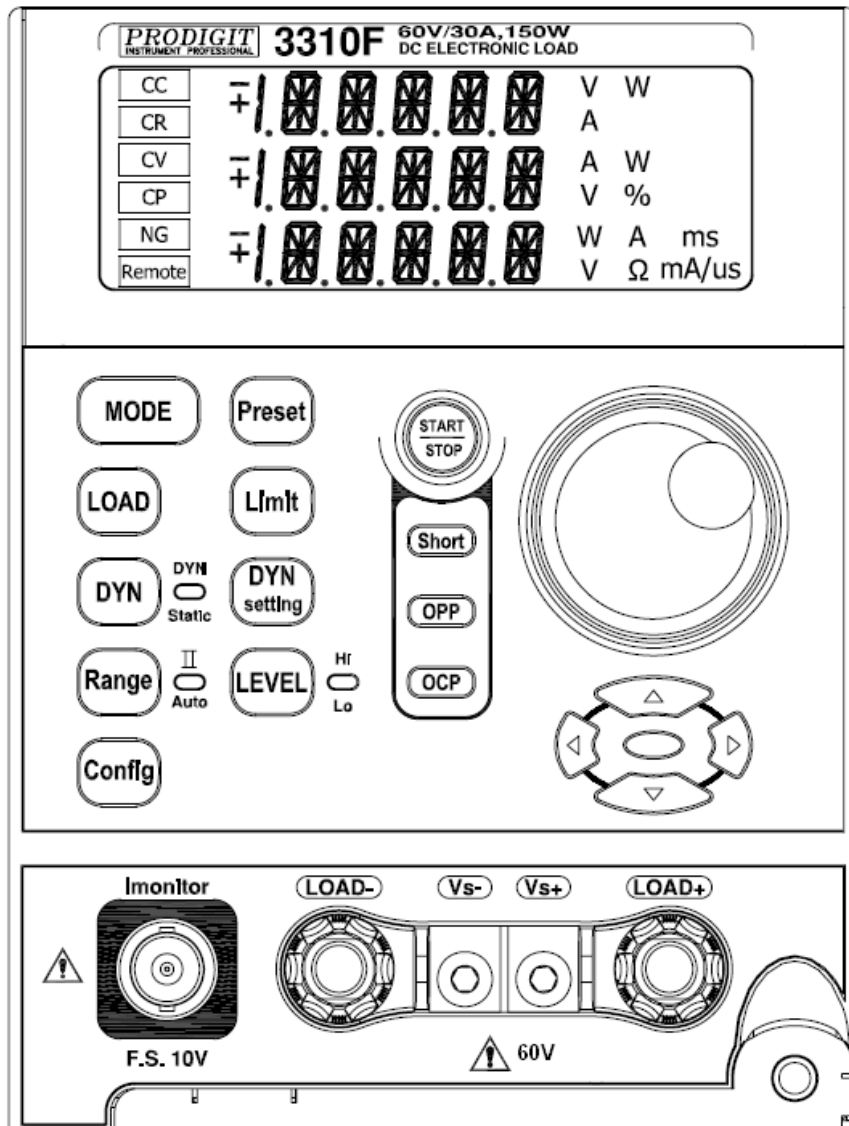

Fig 2-1 Binding post and withdraw handle on the front panel of 3310F series Plug-in load module
- 2.1.1.4 Use the supplied screw to fasten the load module to the mainframe. The Screw hole is located at the end of the pull out handle at the bottom right hand Corner of the 3310F load module. The screw location is shown on Fig 2-1 and Is below and to the right of the LOAD + binding post.